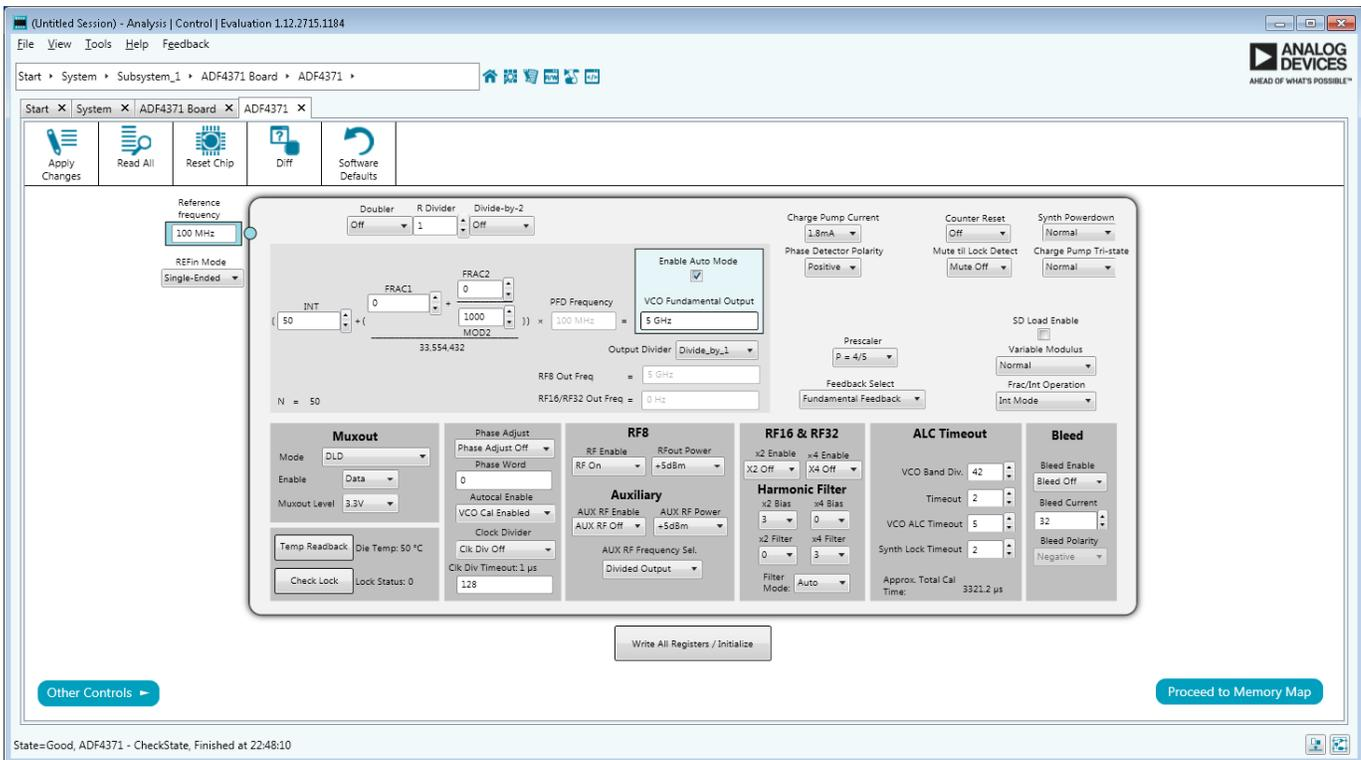

Figure 1. ACE Main Control Window
1. Open the ACE software with the EV-ADF4371SD2Z or the EV-ADF4372SD2Z connected, as explained in the respective user guides. The ACE main control window is shown in Figure 1.